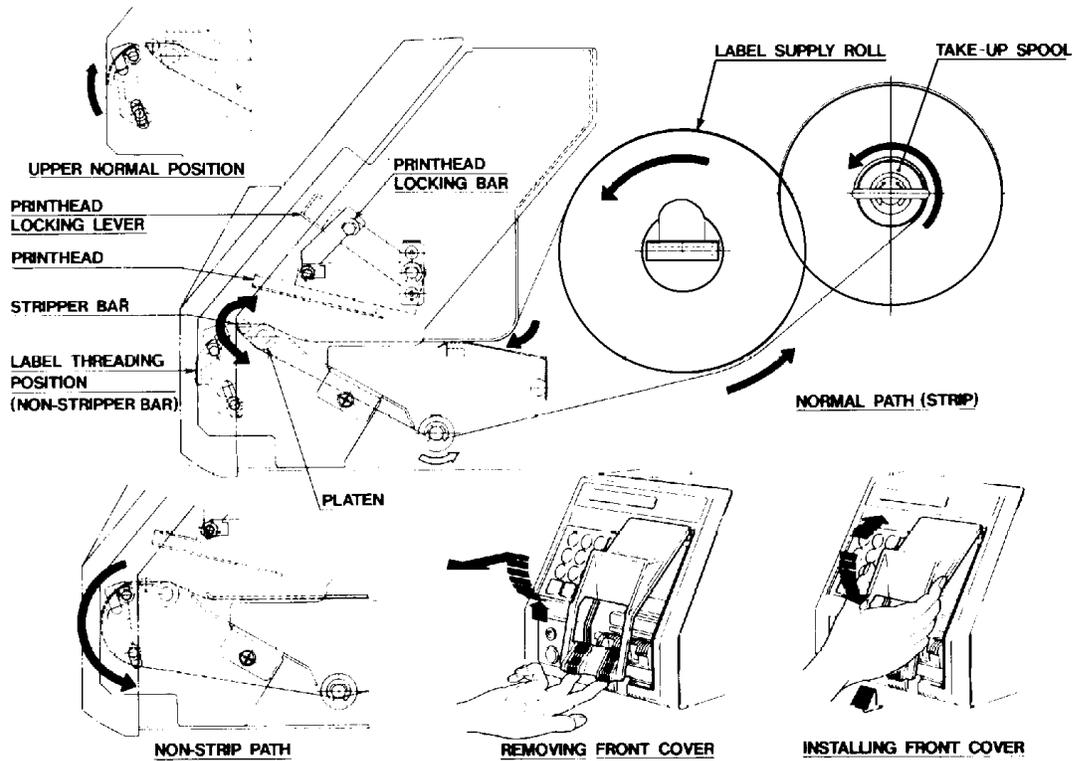

FIGURE 2
*NOTE: Refer to figure 2, Label Threading Diagram.*